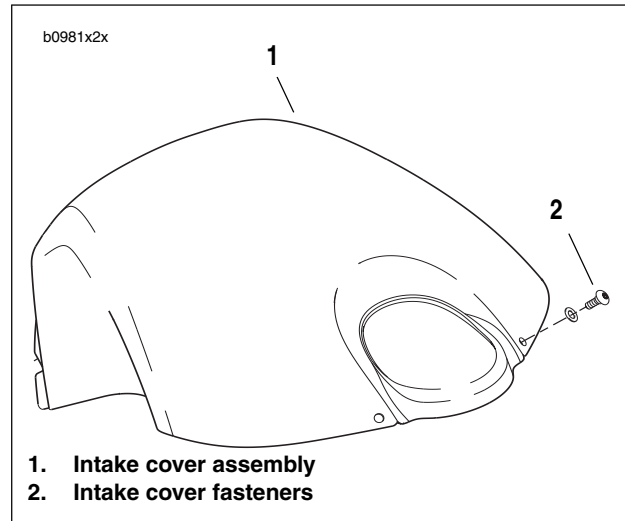

Figure 2-113. Intake Cover Assembly
2. See Figure 2-113. Remove fasteners and nylon washers (2).
3. Remove intake cover assembly (1).
2. See Figure 2-113. Start the front two fasteners (2) with nylon washers.
3. See Figure 2-113. Secure intake cover assembly (1) with fasteners and nylon washers (2). Tighten to 12-36 **in-lbs** (1-4 Nm).